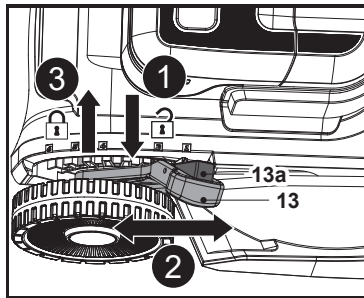

Fig. 10
1. Squeeze the locking button (13a) and hold it in position (Fig. 10, step 1).
2. Move the lever (13) forward or backward to adjust the cutting height (Fig. 10, step 2).
3. Release the locking button (13a) and ensure the lever (13) engaged in the slot properly (Fig. 10, step 3).